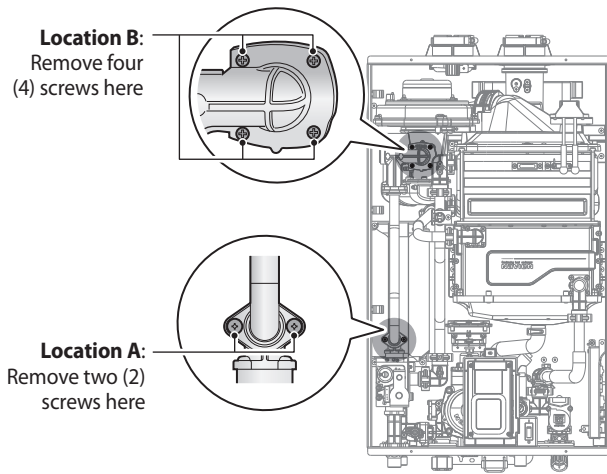

Figure 3. Detaching Gas Valve from Gas Inlet Pipe and Fan Motor Assembly
4. Use a Phillips screwdriver to remove the two screws at Location A - the connection below the Gas Valve where it connects to the pipe. See Figure 3 for reference. Once the screws are removed, carefully separate the pipe from the Gas Valve.